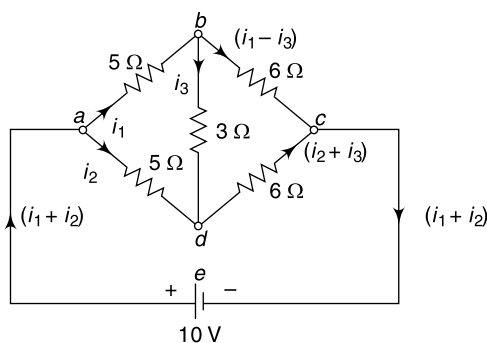

Fig. 4.32 Circuit of Ex. 4.19
4.19 Find branch currents in the bridge circuit shown in Fig. 4.32.
We assume currents i_1 , i_2 and i_3 in the directions as shown in Fig. 4.32.